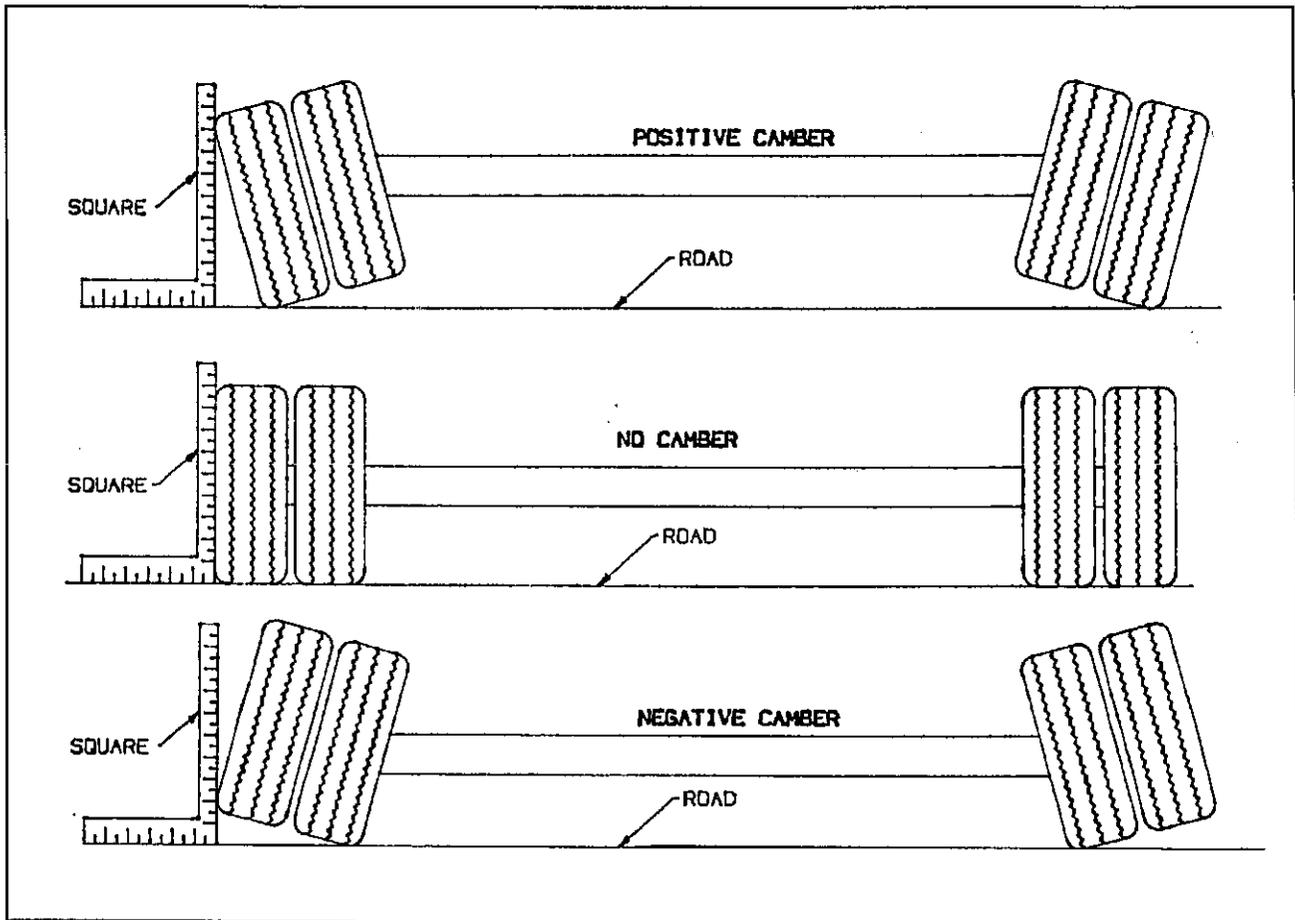

Figure 4-4 Examples of Camber
- d. Follow the same procedures as in Paragraph 4-7 b and c, except place the axle gauge above and below the axle. If gauge point gap is found, the axle has positive or negative camber. The trailer axle has no camber from the factory. If it is found to have positive or negative camber, axle replacement is necessary (See Figure 4-4 for examples of camber).